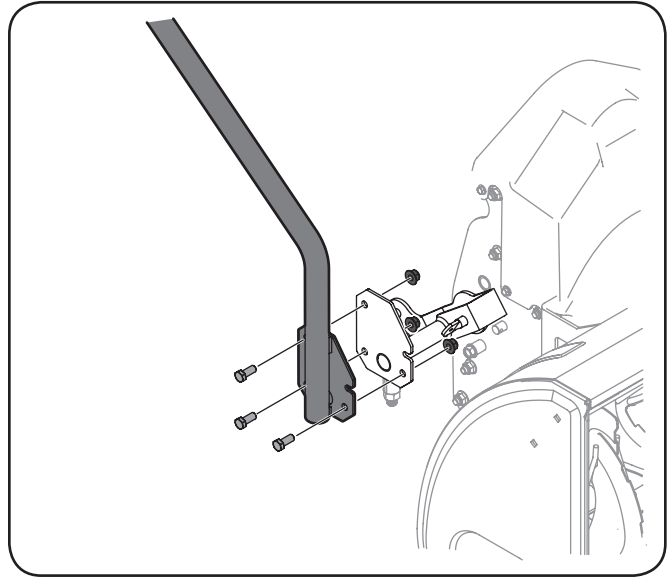

Figure 3-20
- Using two $\frac{9}{16}$ " wrenches, secure the lift handle to the auger housing assembly with three hex screws and flange lock nuts. See Figure 3-20.